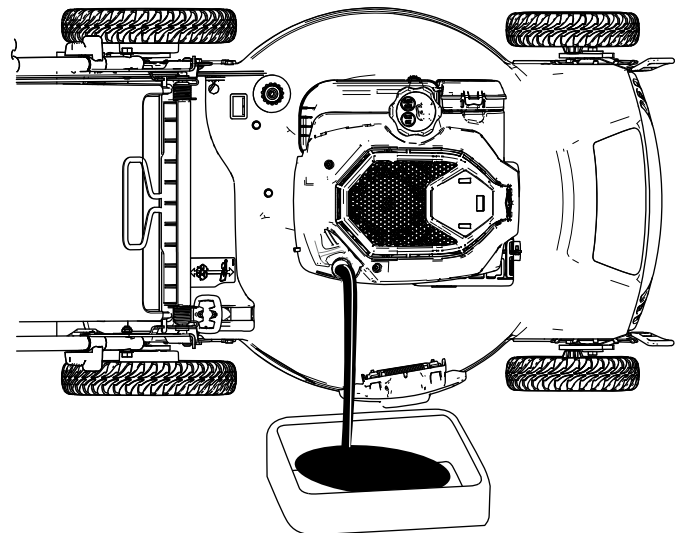
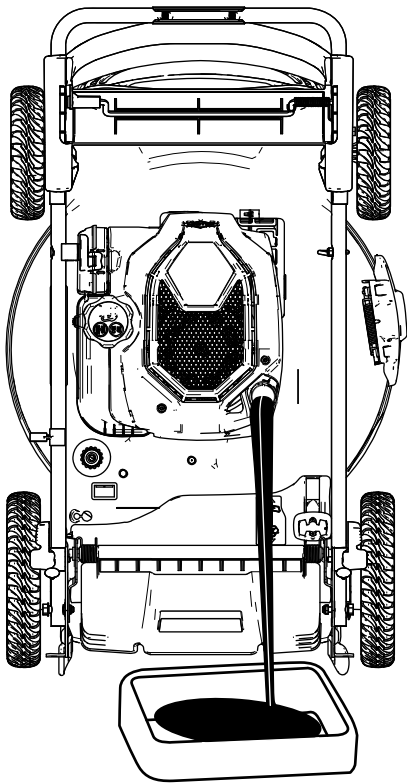

Figure 29
Figure 30
4. Tip the machine onto its side (so that the air filter is up) to drain the used oil from the oil-fill tube (Figure 29) or set the machine in the vertical-stow position (Figure 30).